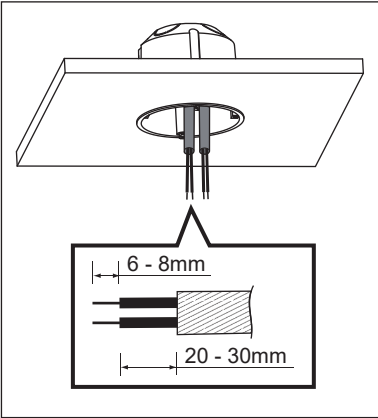
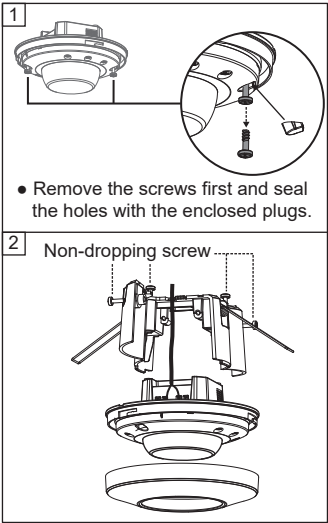
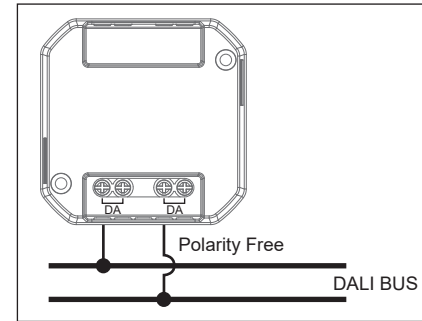

FIG.1
FIG.4
FIG.12
- 2. Pull out power cables from European standard junction box, then strip off 6 - 8mm of cable sheathing for wiring (See FIG.1). Refer to wiring diagrams for correct wiring connection (See FIG.12~13).
- 2. Please refer to illustration of FIG.4 for correct installation, and fix the flush mount spring clips to the detector with 2pcs non-dropping screws (See FIG.4).
- 3. Refer to wiring diagrams for correct wiring connection (See FIG.12~13), and then tighten the flush mount spring clips with 2pcs non-dropping screws (See FIG.4).
- 4. Refer to wiring diagrams for correct wiring connection (See FIG.12~13) and fix the detector into surface mount box with 2pcs non-dropping screws (See FIG.10).